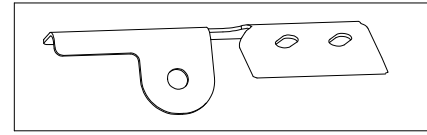

Figure B1: Truck frame cross member wiring bracket.
- Detach wiring harness bracket.** Locate the metal wiring harness bracket on the rear frame cross member, as shown in Figure B1. Remove the 6mm bolt holding the bracket to the frame. Carefully cut the two plastic ratchet plug fasteners to remove the bracket from the wiring and discard the bracket.